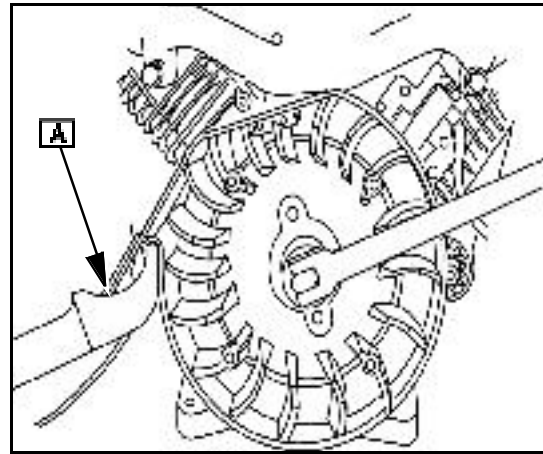

Fig. 6
6. Place Flywheel Strap Wrench #19433 ([A] Fig. 6) around outer rim of flywheel.